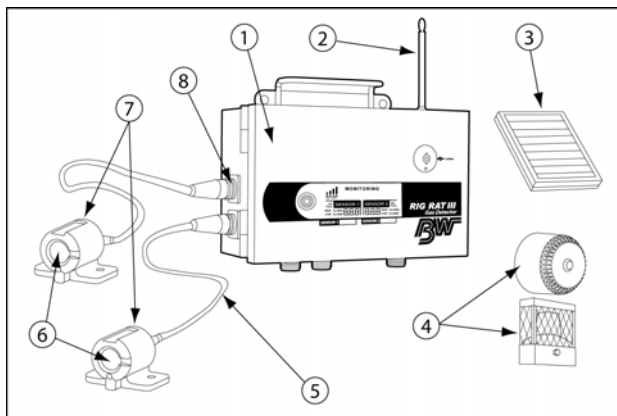

Figure 5. Main System Components
- Figure 5 and Table 8 describe the main system components and the option devices of the detector.